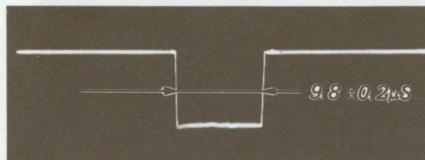

Fig. 5-127.
- (1) Make the BVM-1201 receive the crosshatch signal and set up the UNDER SCAN mode.
- (2) Connect the oscilloscope probe to TP5 on the E board (its earth to TP6) and turn RV10 for adjusting the H. BLK pulse width. (See Fig. 5-127.)